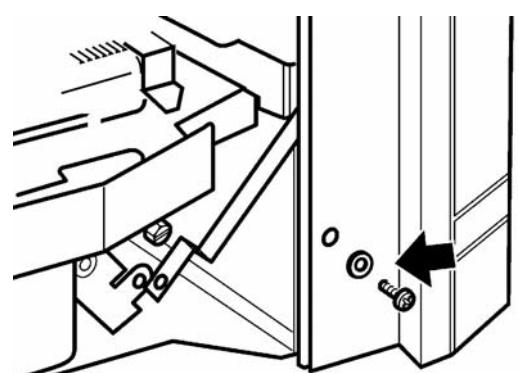

Figure 32. Fascia securing
3. Swing the bottom control linking bar towards the centre of the fire to clear the right side of the fascia. Slide the fascia sideways, if necessary, to align the bottom fixing holes with those in the hotbox. Fix the bottom of the fascia to the hotbox with the two washers (*Not required on Heritage model*) and black screws supplied (See figure 32).